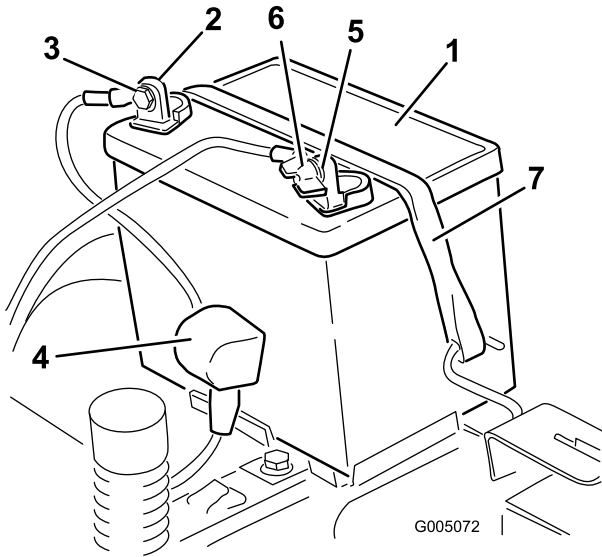

Figure 35
4. Disconnect the negative (black) ground cable from the battery post (Figure 35). Retain all fasteners.
- Slide the rubber cover up the positive (red) cable. Disconnect the positive (red) cable from the battery post (Figure 35). Retain all fasteners.
- Remove the battery hold-down (Figure 35) and lift the battery from the battery tray.
- Position the battery in the tray (Figure 35).
- Secure the battery with the hold-down (Figure 35).